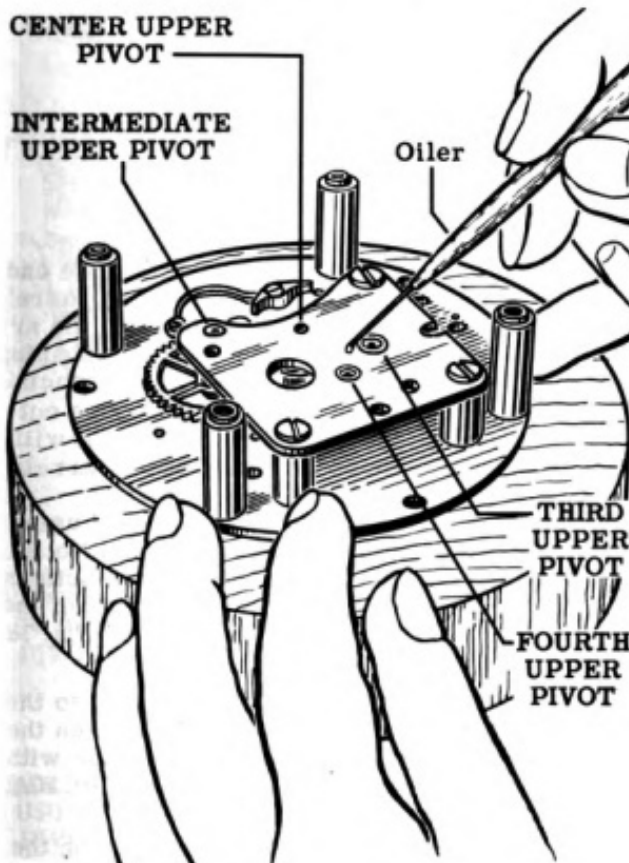

Figure 76
8. Oil the third and fourth upper pivots. See Fig. 76 and "Timepiece Lubrication" as indexed in the Control Manual.